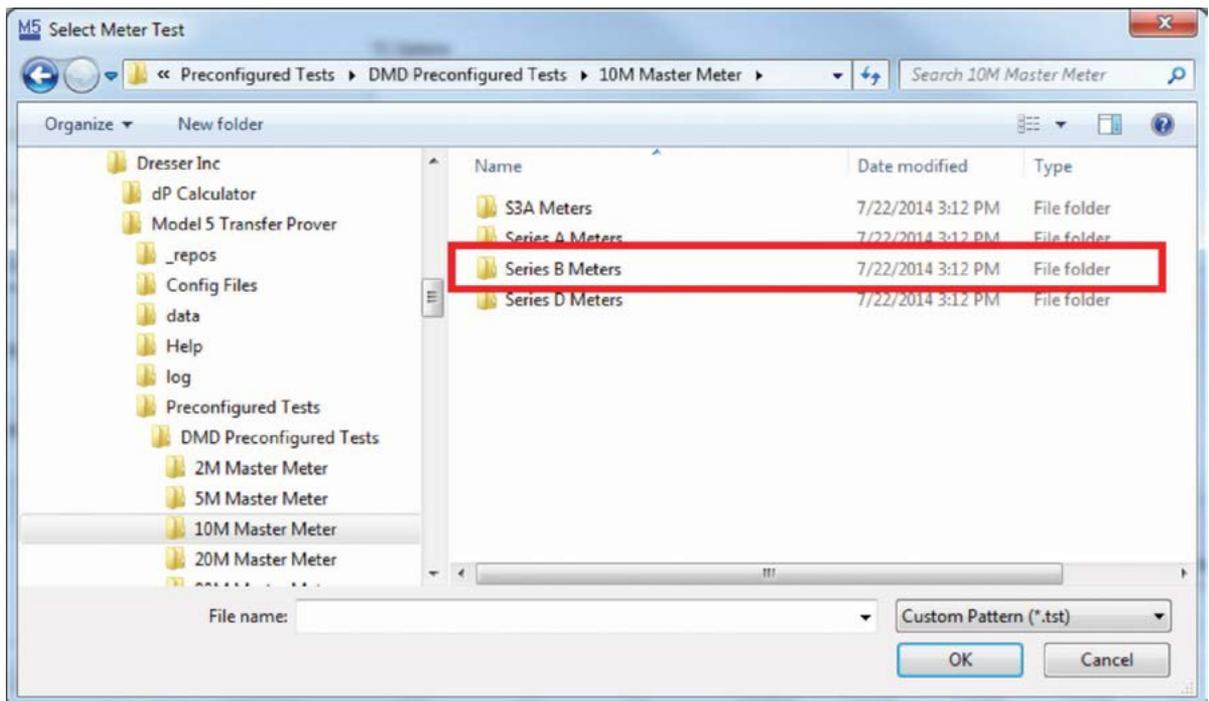

Figure 97: Meter Family Selection
- A folder for each of the meter families will appear. Refer to **Figure 97**. For the sake of this example, assume the meter under test is a B Series meter.